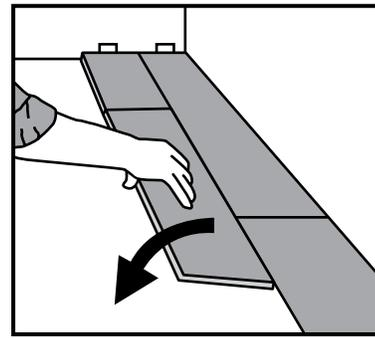

Fig. 2
- Start the second row using 1/3rd of a plank (Fig. 2).